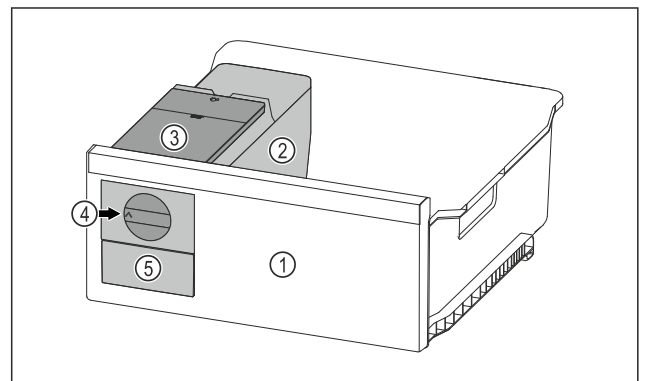

Fig. 75 Example illustration
- ▶ Turn the rotary knob Fig. 75 (4) clockwise as far as it will go.
- ▷ Ice cubes fall from the ice cube tray into the ice cube drawer Fig. 75 (5).